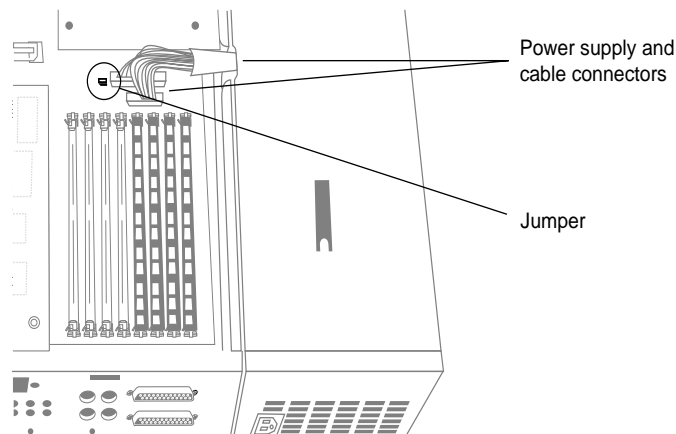

Figure 7-12 Locating the Password Jumper
3. Locate the jumper beside the power supply cable connectors on the system board, as shown in Figure 7-12.